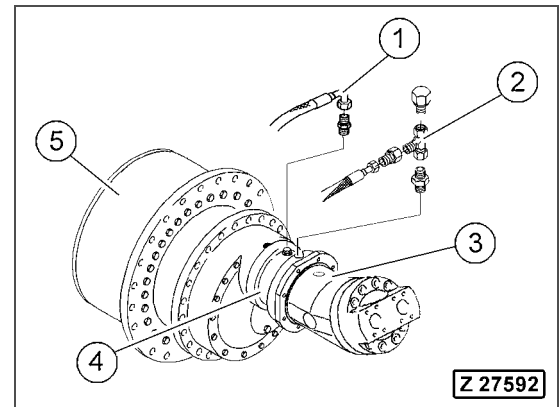

Fig. 4-54
- Remove the travel motor (Fig. 4-54, Pos. 3) but leave all hoses connected, refer to section 4.2.9.1 on page 4-41.
- Remove the pressure hose (Fig. 4-54, Pos. 1) and the breather hose (Fig. 4-54, Pos. 2) from the travel parking brake (Fig. 4-54, Pos. 4).
- Remove the mounting bolts of the travel parking brake and remove the travel parking brake by pulling it out of the travel gear box (Fig. 4-54, Pos. 5) using a crane.